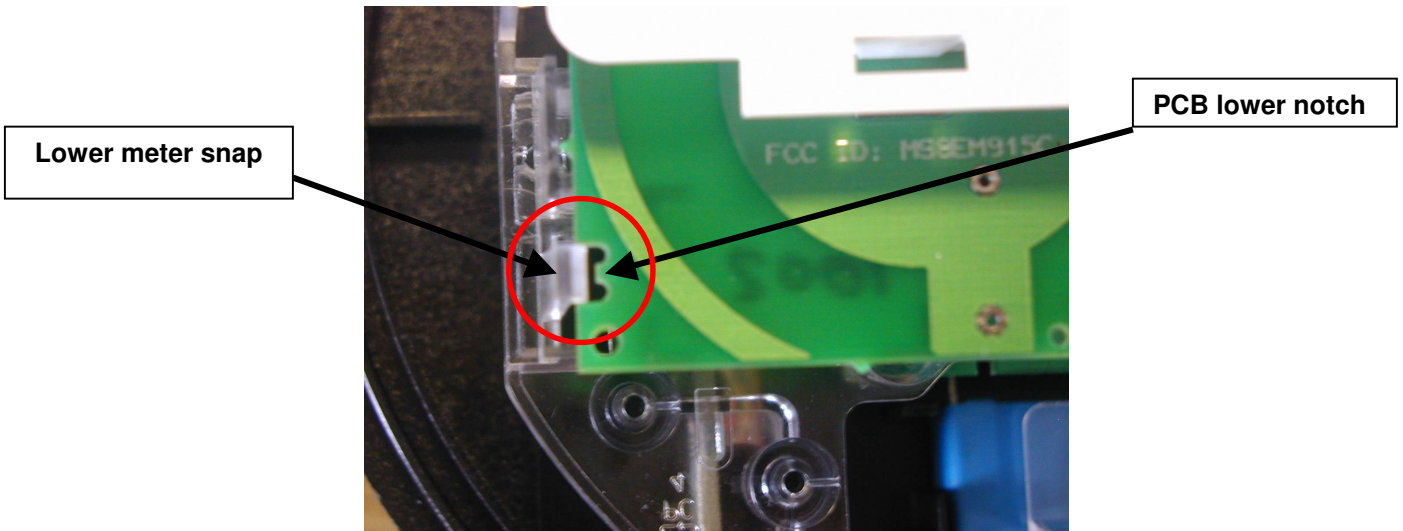

Figure 6: Alignment of PCB notch with meter snap
8. Snap the new module into the meter frame by aligning the notches at the bottom of the circuit board with the lower two snaps (see Figure 6).